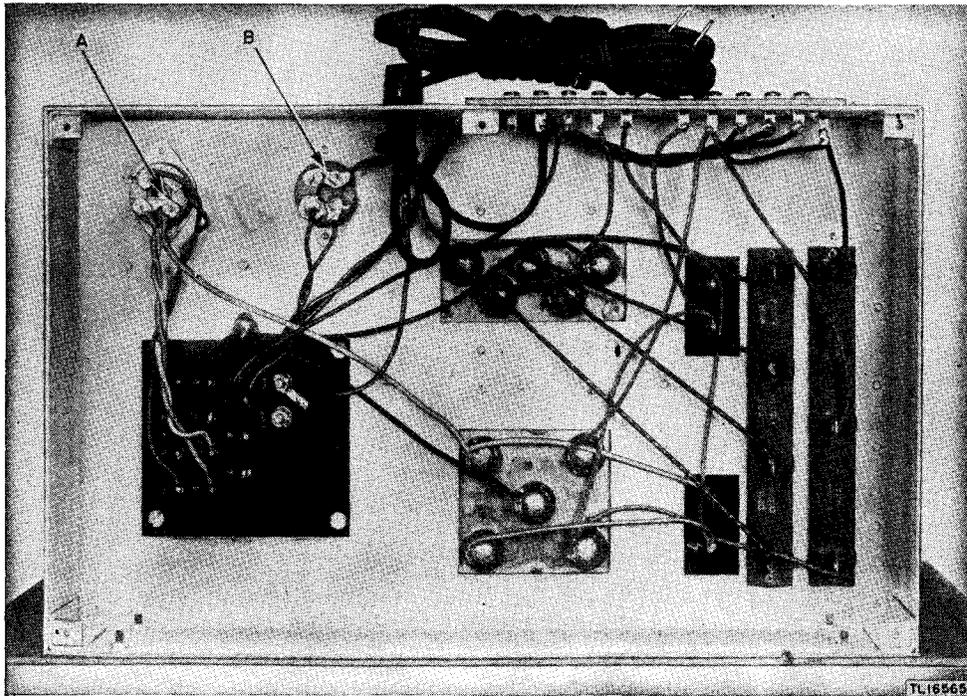

Figure 22. Power Supply Unit RA-91-A, bottom view of chassis, showing masking.
## 55. Power Supply Units RA-74-(\*), RA-84-(\*), and RA-94-A (figs. 22 and 23)
(1) Contacts of tube sockets (A and B, fig. 22).